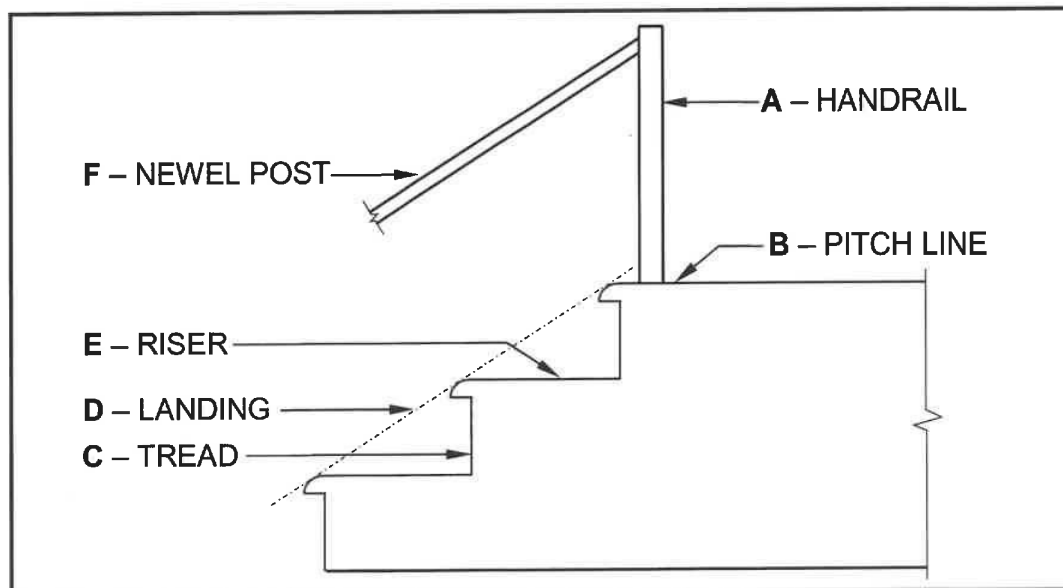

FIGURE 6.5
6.5 FIGURE 6.5 below is an illustration of a staircase with INCORRECT labels. Rearrange and give the correct labels for **A** to **F**.